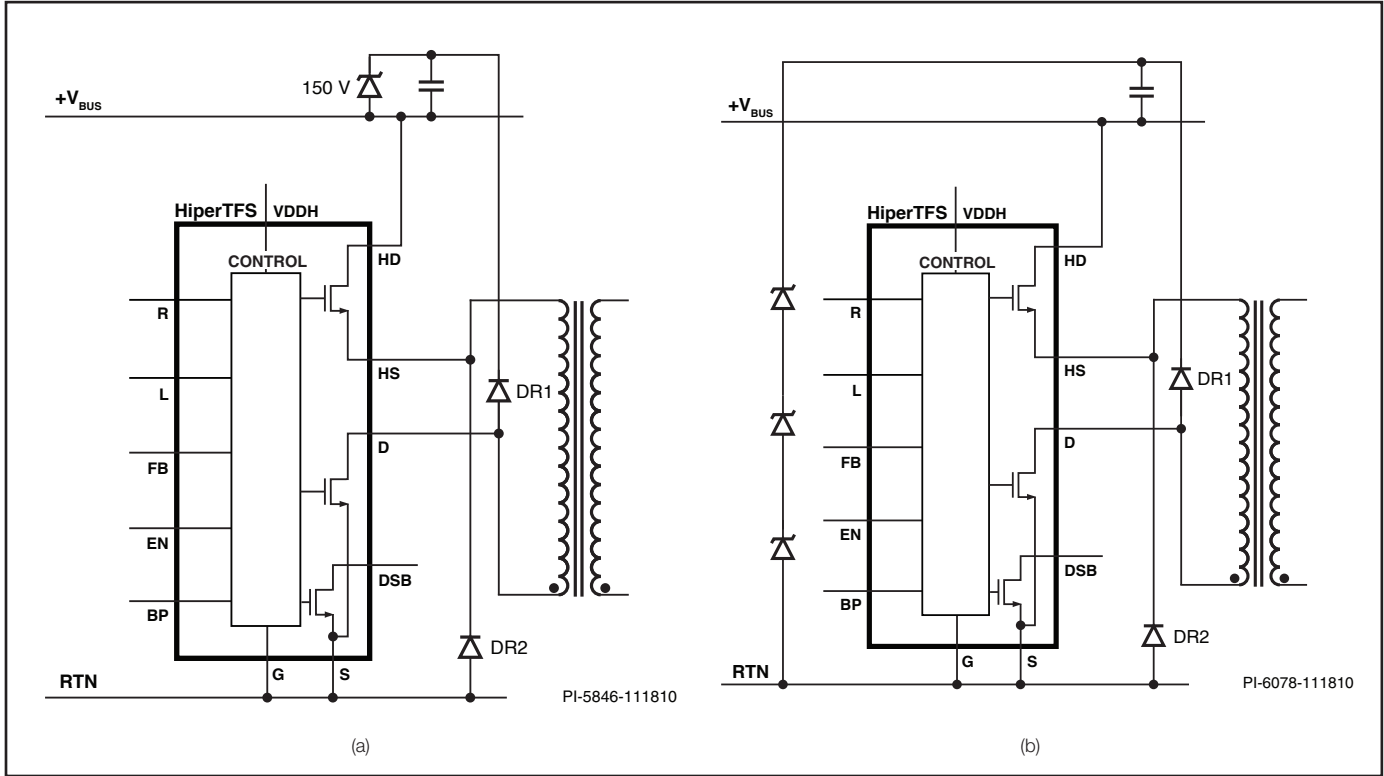

Figure 7. Clamp-to-Rail (a) and Clamp-to-Ground (b).
be reset and recovered in a safe manner. There are two options for main transformer reset within [CLAMP SELECTION]: clamp-to-rail and clamp-to-ground (see Figure 7 for both clamp schematics). Clamp-to-rail clamps the bottom main switch to a constant value above the input DC bus (385 VDC). This is the simplest and least expensive clamp method and also has the convenience of allowing the standby converter to share the clamp network. Clamp-to-ground is the second option which creates a constant reset voltage with respect to primary ground and has the advantage of allowing wider nominal operating duty cycle, which offers either the advantage of lower RMS current for the primary main switches of HiperTFS or allows the use of a smaller input bulk capacitor. The default nominal duty cycle [DVNOM] for clamp-to-rail is 0.45 and the default for clamp-to-ground is 0.49.
- The default nominal operating duty cycle is 45% for clamp-to-rail. Notice from Figure 7 the circuit includes a 150 V Zener. This allows a maximum duty cycle at VMIN to be greater than 58% for the example spreadsheet shown. [DMAX VMIN] is typically 60% for clamp-to-rail setting. The value of the clamp Zener is selectable; however, a value range from 130 V to 150 V is advised. Care should be taken when entering a duty cycle higher than 45% for clamp-to-rail as it may cause a THOLDUP warning. Generally higher nominal operating duty cycles require changing the clamp mode to clamp-to-ground to increase reset voltage across transformer during brownout. A nominal operating duty cycle of up to 50% can be achieved with clamp-to-ground. The default value of [VCLAMP] in clamp-to-ground configuration is 530 V.
- The items in the rows below are computed values for transformer design parameters including total primary turns [ $N_p$ ] and peak flux density of core. [ $BM_{MAX}$ ] is the nominal absolute peak flux excursion during normal operation. [ $BP_{MAX}$ ] is the absolute peak flux excursion allowed by the L and RESET pin reset limiter circuit. The external clamp circuit, including the standard recovery diode DR1 (Figure 7) and the effective primary winding capacitance help set the core flux significantly negative at the end of the reset (off-time) cycle. This is why [ $BM_{MAX}$ ] and [ $BP_{MAX}$ ] are a lower value than [BM PK-PK] and [BP PK-PK]. [ $BM_{MAX}$ ] and [ $BP_{MAX}$ ] are important parameters to determine flux density margin below core saturation during transient conditions. [BM PK-PK] and [BP PK-PK] are useful for determining core loss.